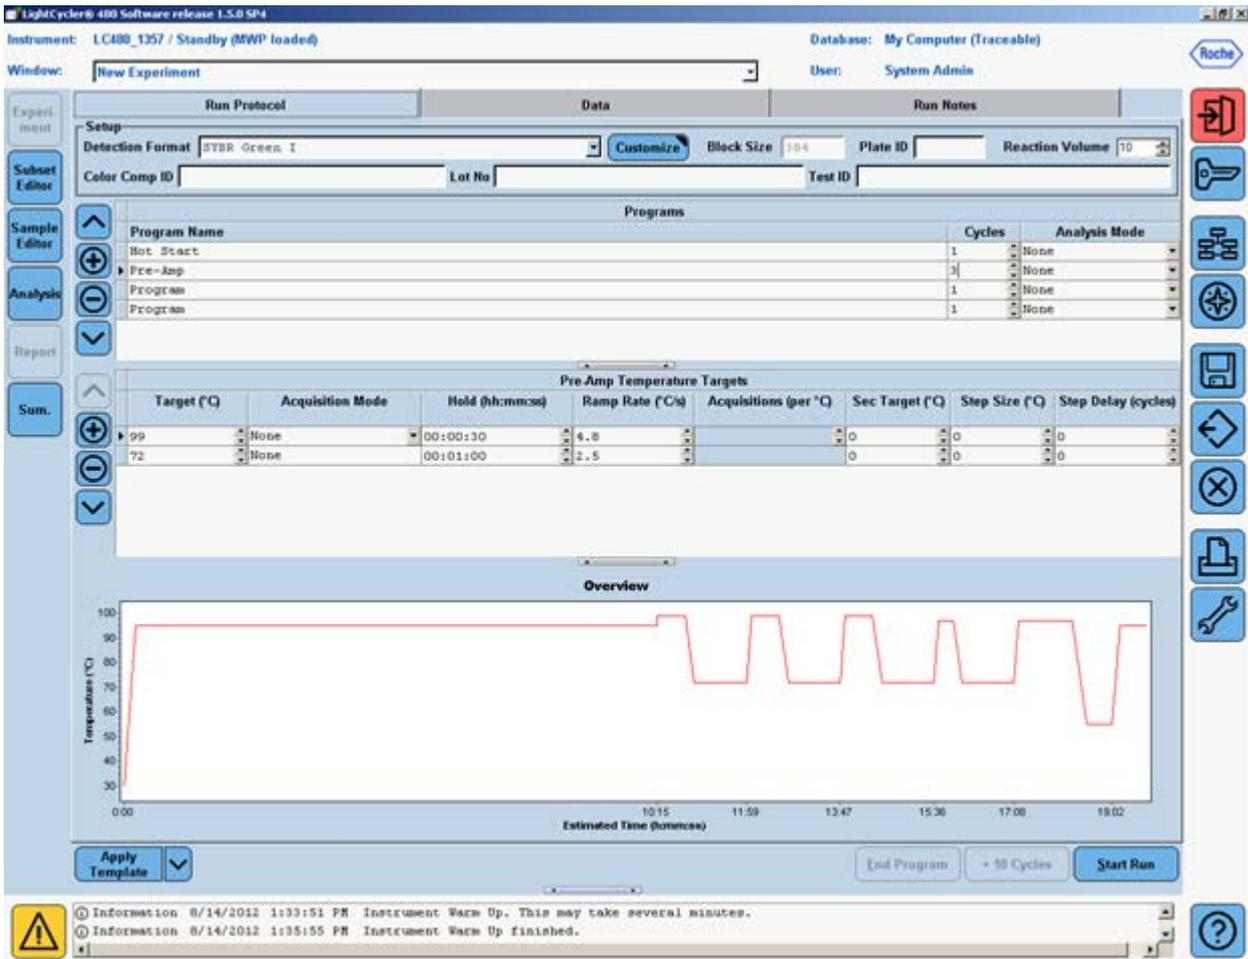

Figure 4. Setup of the second program — “Pre-amp Cycling.”
- Click to change the “Program Name” of the second program to “Pre-amp Cycling.” Change the number of “Cycles” to “3”. In the “Program Temperature Targets” section, click the  button to add one more temperature target line. Enter the values for the following parameters (Figure 4):